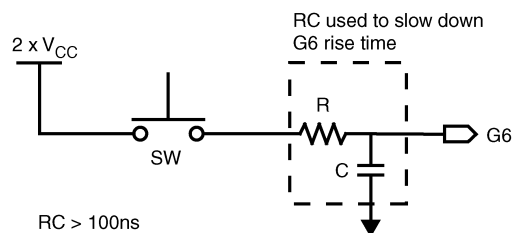

**Figure 5-8. Circuit Diagram for Implementing the  $2 \times V_{CC}$**
4. After  $V_{CC}$  is valid and stable, connect a voltage between  $2 \times V_{CC}$  and  $V_{CC}+7V$  to the G6 pin. Ensure that the rise time of the high voltage on G6 is slower than the minimum in the Electrical Specifications. Figure 5-8 shows a possible circuit diagram for implementing the  $2 \times V_{CC}$ . Be aware of the typical input current on the G6 pin when the high voltage is applied. The resistor used in the RC network, and the high voltage used, should be chosen to keep the high voltage at the G6 pin between  $2 \times V_{CC}$  and  $V_{CC}+7V$ .